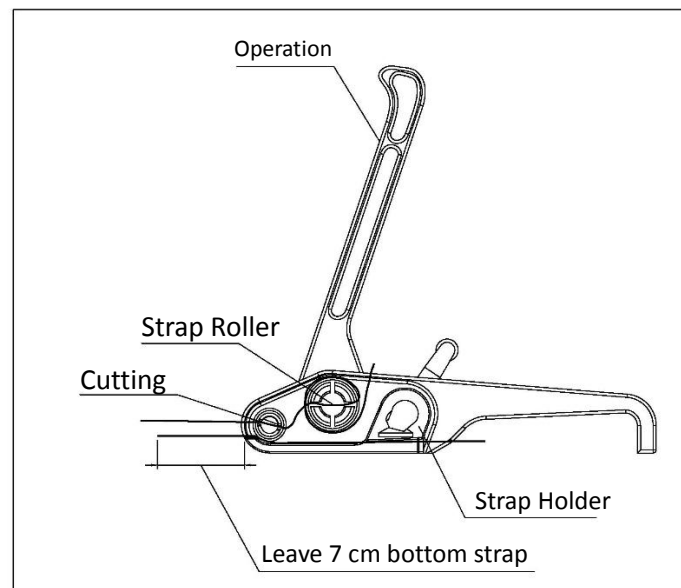

FIGURE 17.
Working with maximum 25mm PP & PET straps manual tensioners. See figure 17.
*Leave at least 7 cm bottom strap out for easy sealing (As Figure 17 shown)